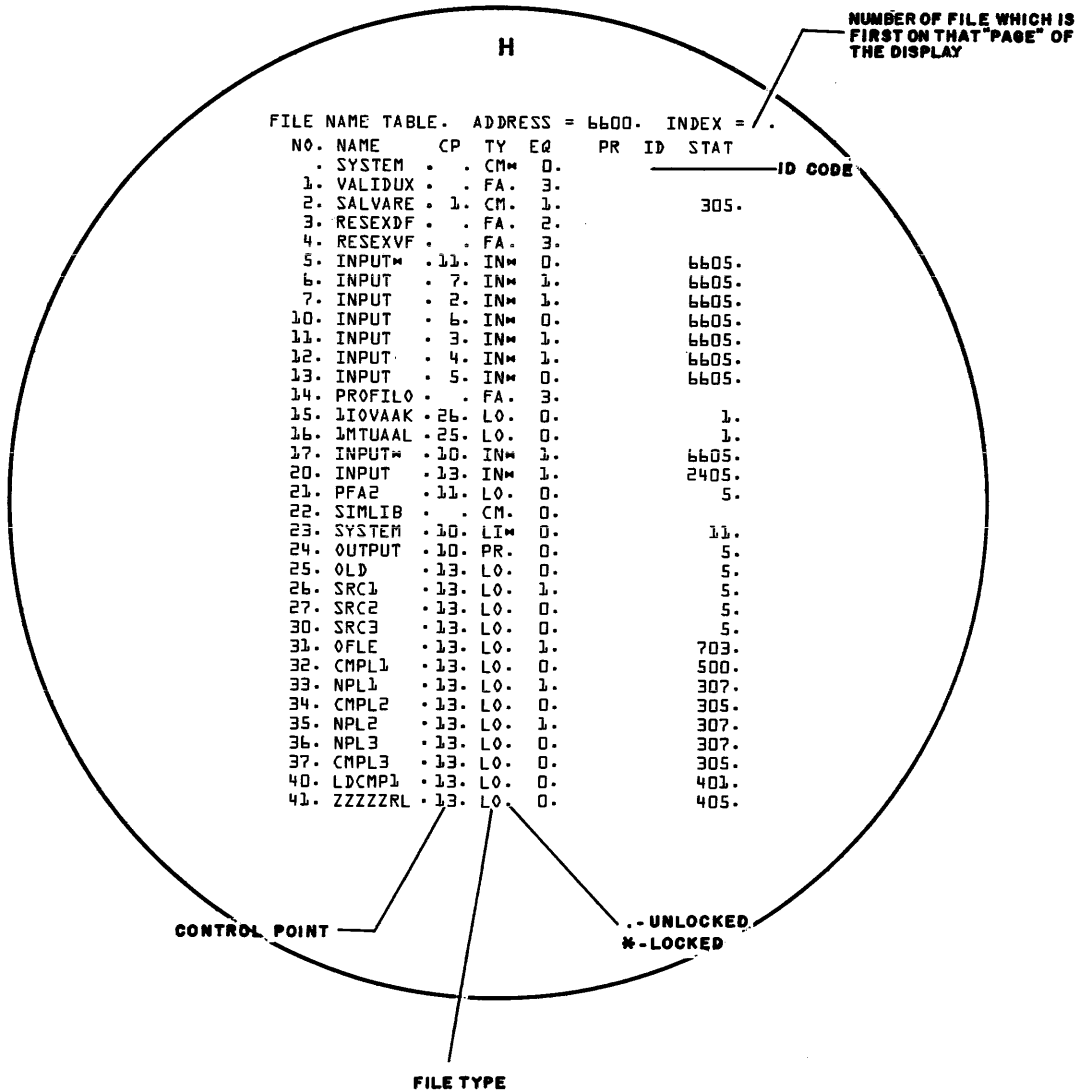

Figure 4-6. File Name Table (H) Display
Figure 4-6 illustrates the file name table (H) display.